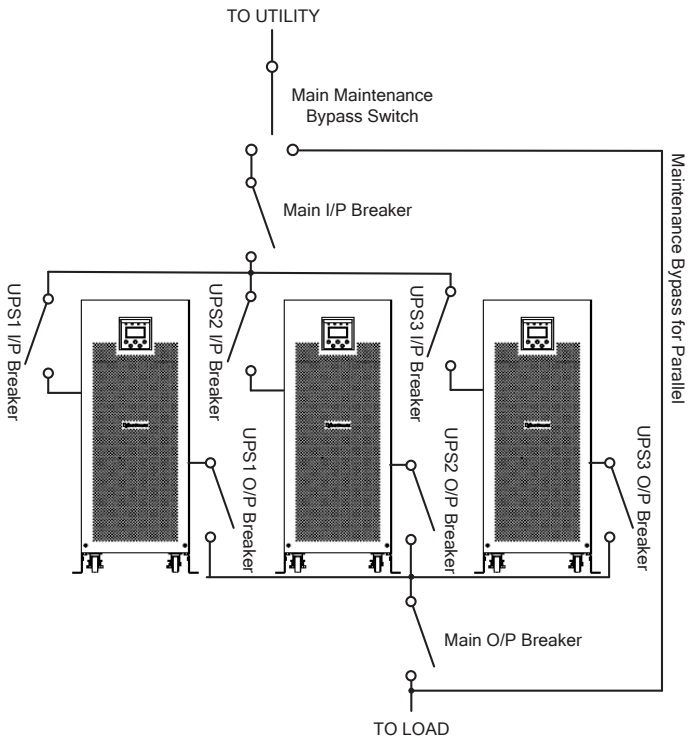
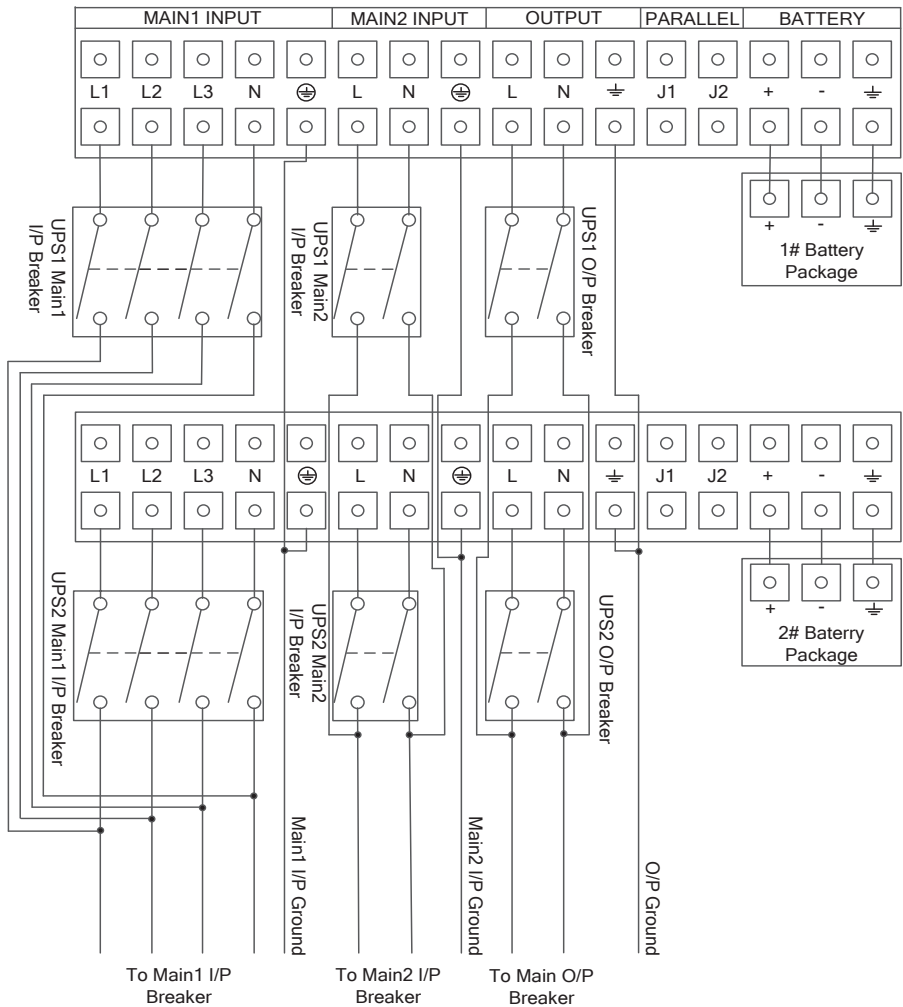

Fig.6-2 Parallel installation diagram
Fig.6-3 Input and output Terminal Block wiring diagram
- 7) Please refer to the wiring diagram in the following diagram. See Fig.6-2, Fig.6-3.